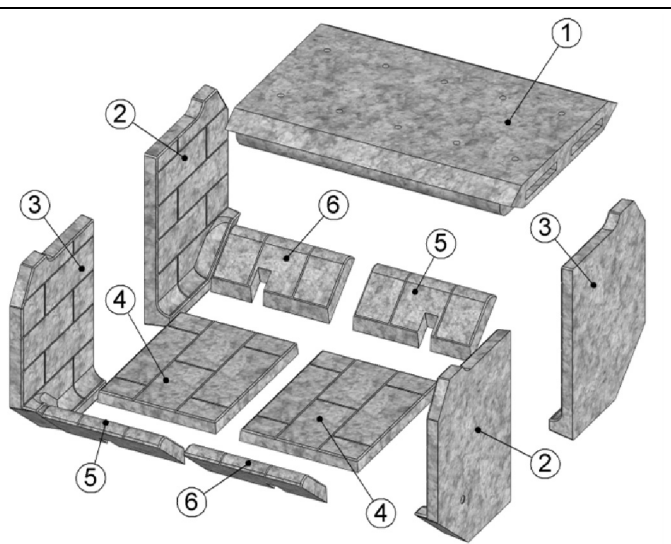

Figure 14 Refractory Bricks Installation
The refractory bricks for the FOCUS ST fireplace are placed in the firebox at the factory. If, for any reason, they should need to be replaced, the following order should be observed (see Figure 14). To remove any of the refractory bricks, just follow the installation procedure in the reverse sequence. Refer to Figure 14 to adequately identify which refractory brick is the right and which is the left at each step of the installation.
1. Insert the baffle (1) into the firebox. The baffle is quite heavy and must be lifted to the top of the firebox. A small jack or 2"x4" lengths can be used to hold it at the top of the firebox temporarily. Make sure to orient the baffle correctly. The side with the most holes should point towards the floor of the firebox.
2. While supporting the baffle as high as it will go, place the left and right side refractory bricks (both right (2) and both left (3)) as shown in Figure 14.
4. Install both bottom refractory bricks (both (4)).
5. Install the front refractory bricks (both right (6) and both left (5) as shown in Figure 14.
4. The right side refractory bricks (bricks (2) in Figure 14) already have a hole to allow the gas line through. You only need to clean out the gray sealant out of the hole on the selected installation side to be able to pass the gas line through and into the firebox.